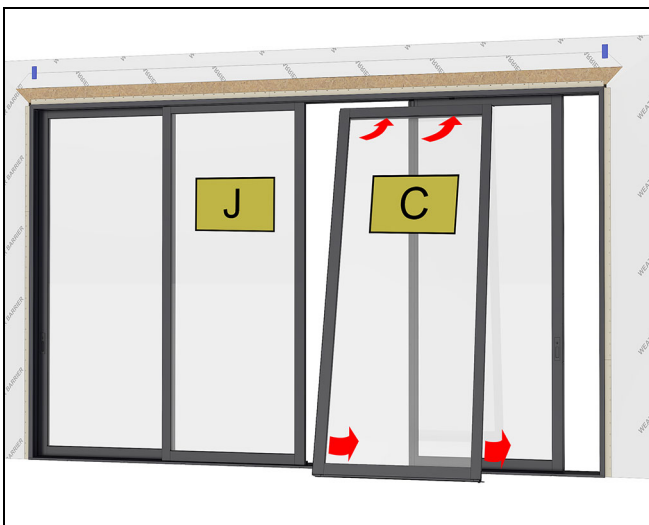

Figure 170 XOOX
11. Install the (C) stationary panel. Slide the panel up tight against the (J) stationary panel. See Figure 170.